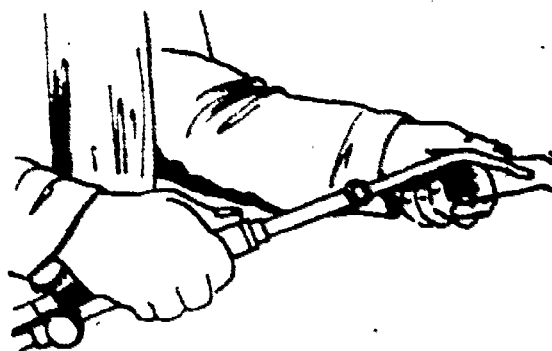

Figure 15. Lighting the Torch
4. Light the gas flowing through the torch tip (see figure 15).